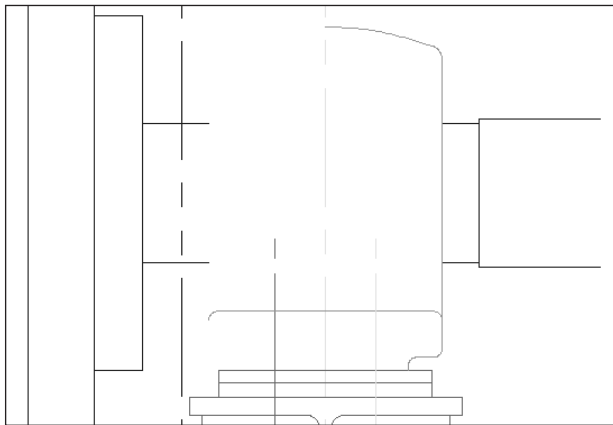

Figure 16-3: The completed polyline
11. Save your drawing. It should look like Figure 16-3.